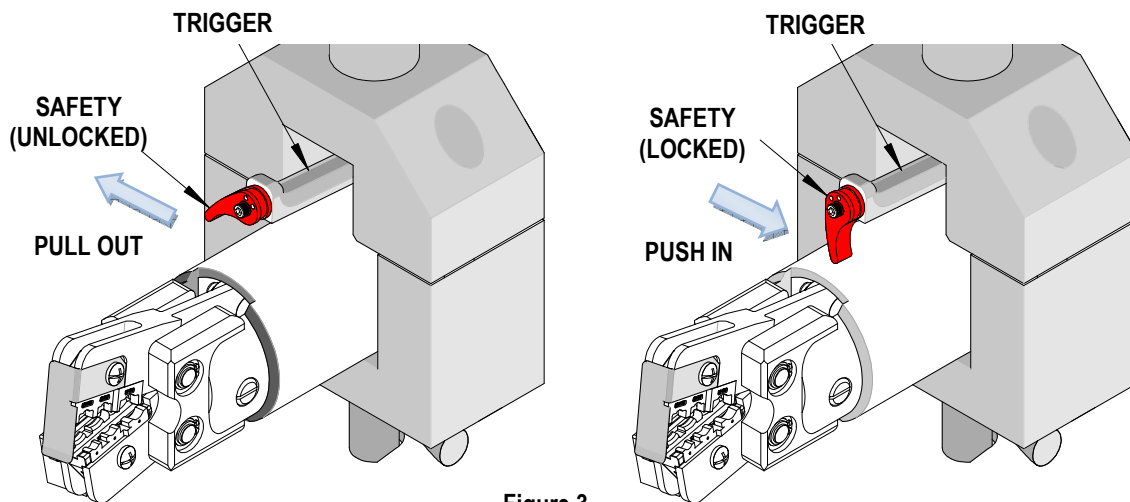

Figure 3
2. Lock the trigger by engaging the red aluminum safety. Pull the safety outward from the end of the trigger and rotate it until the next detent position engages. See Figure 3.